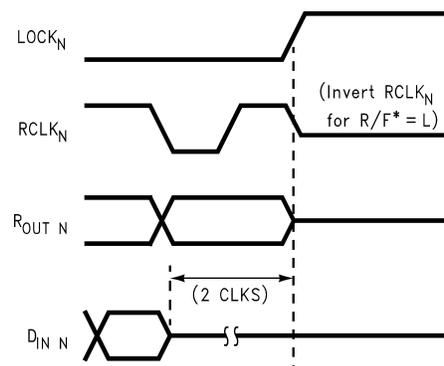

Figure 6. Unlock
- (1) The routing of the Din inputs to the Deserializers and to the CHTST outputs are dependent on the states of SEL [0:2].
(2) Rout n[0:9] and RCLK [0:5] are Tri-Stated when LOCKn[0:5] is High.
(3) LOCK Active indicates that the LOCK output will reflect the state of it's respective Deserializer with regard to the selected data stream.
(4) RCLK Active indicates that the RCLK will be running if the Deserializer is locked. The timing of RCLK [0:5] with respect to Rout [0:5][0:9] is determined by RCLK_R/F Figure 6